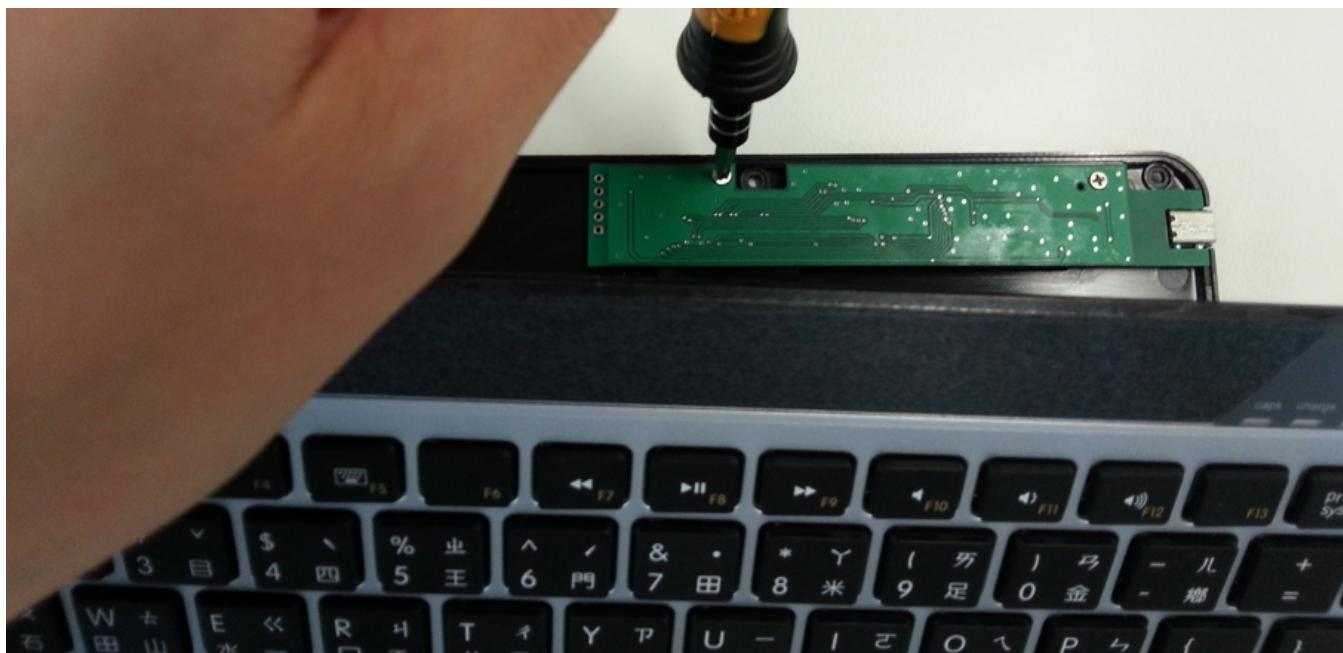

Figure 11. Re-Mount Screws
10. Re-mount all of the screws (see Figure 11).